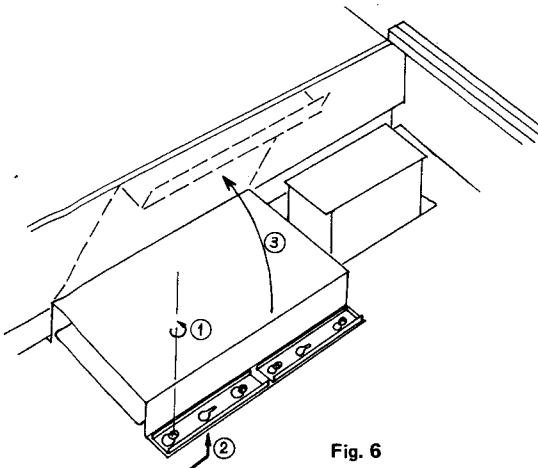

Fig. 6
16. Locate the metallized paper cover used to shield the EAP circuit board. Loosen the retaining screws (4). Removal of the retaining screws is not necessary, "Key hole" slots have been provided. Now, remove the metal brackets and metallized paper cover (see figure 6).